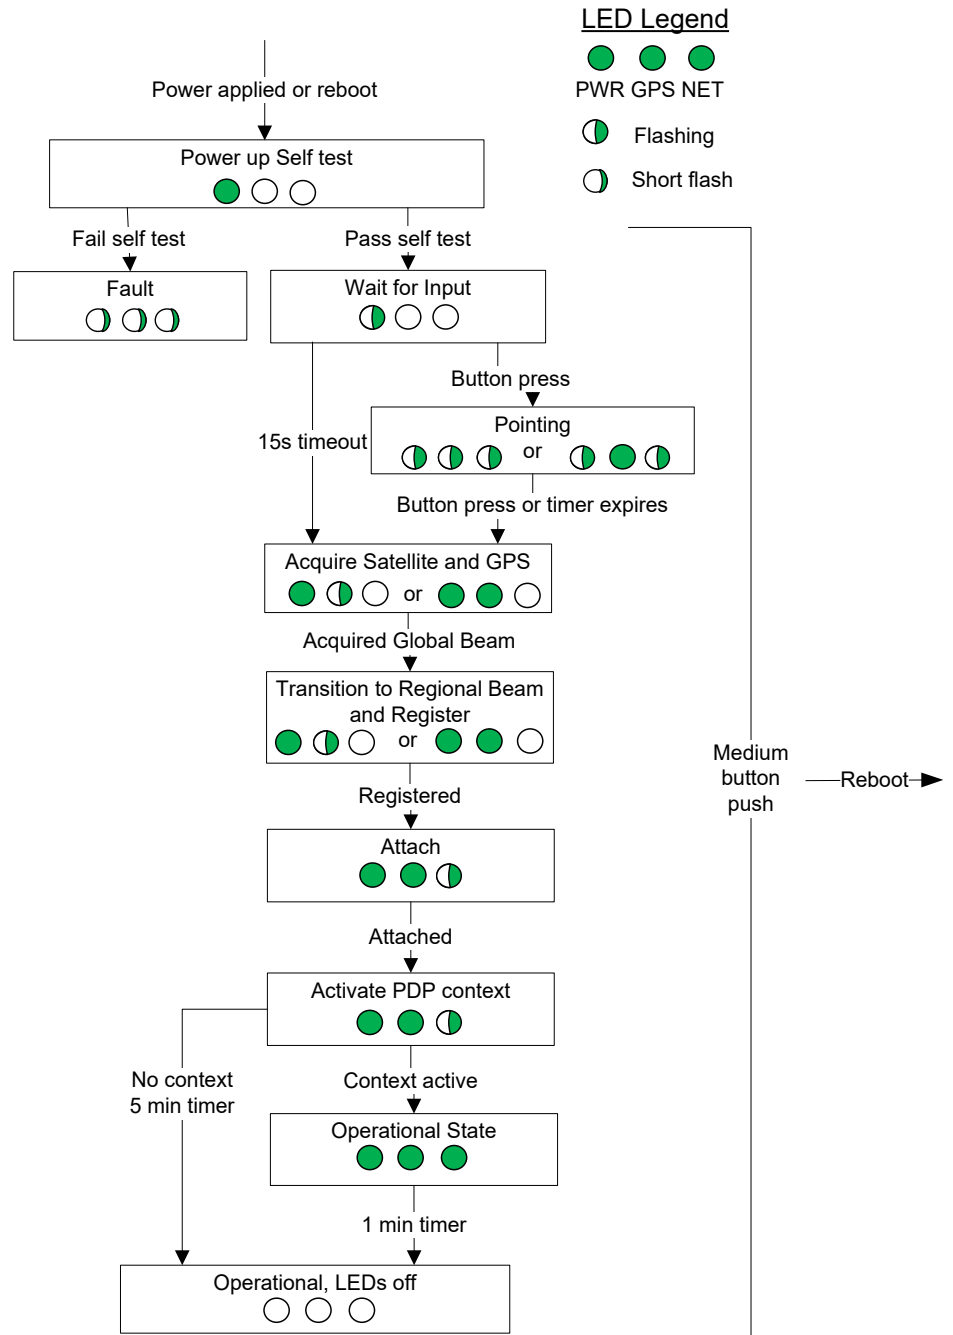

Figure 43: LED flow chart
2. Verify the unit registers, attaches, and establishes a PDP context by checking the status on the Web UI or when all three of the LEDs are solid green (Figure 43 on page 61).
3. Optionally, verify the unit will correctly recover from a power cycle by removing and reapplying power. Verify it registers, attaches, and establishes a PDP context by again checking the status on the Web UI or when all three of the LEDs are solid green (Figure 43 on page 61).